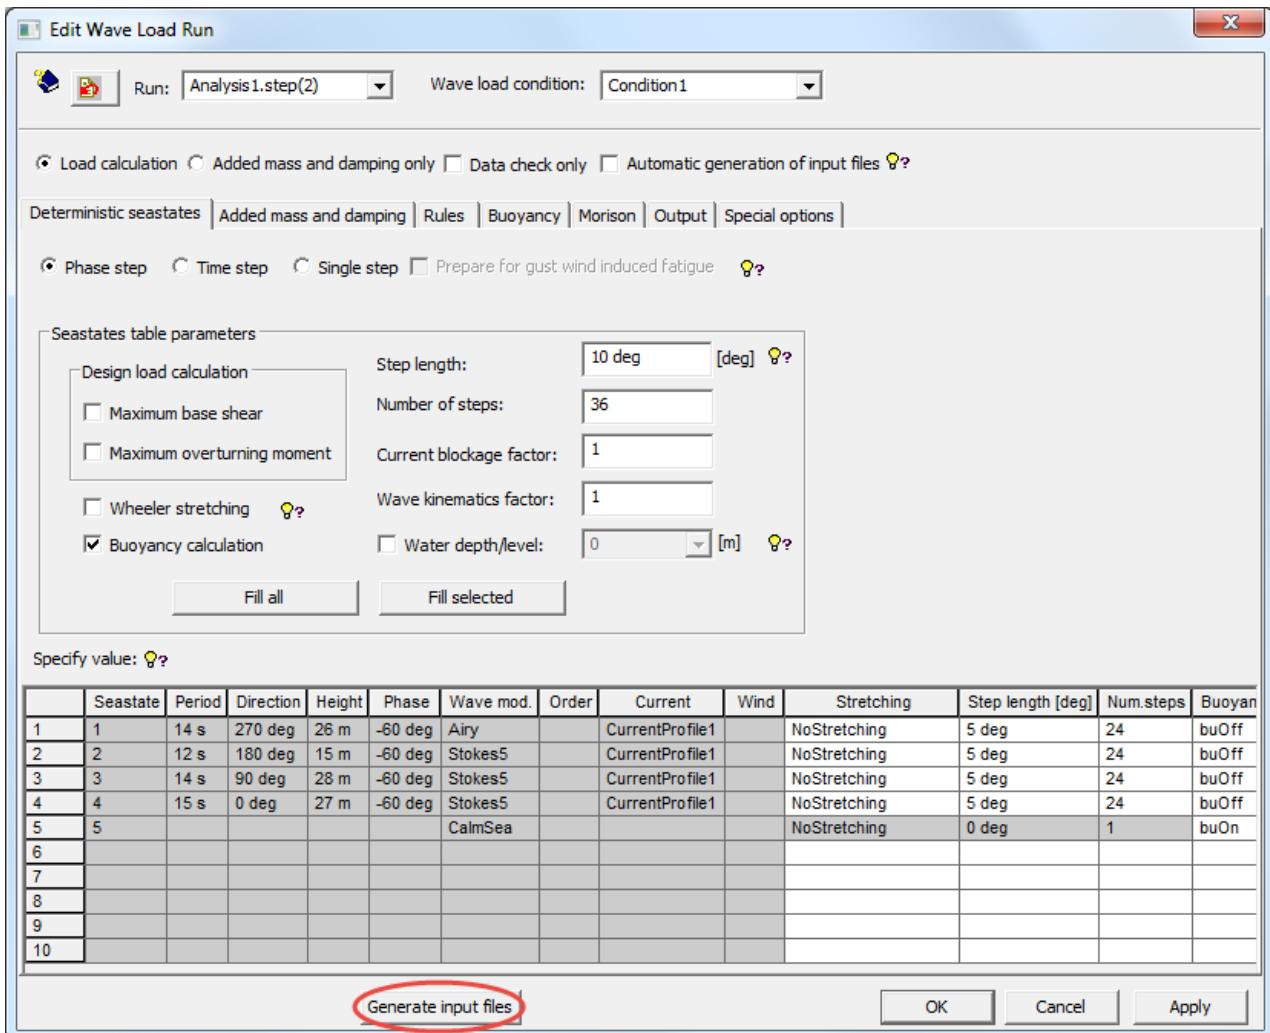

Figure 5.42 The common part of the Edit Wave Load Run dialog, plus all tabs
- The Wajac.inp file is created by default. The Automatic generation of input files option should be unchecked if the user wants to have the final control over the Wajac.inp file. In this case a Generate input files button appears in the dialog; see Figure 5.42. Clicking this button will create an input file that may be manually edited. In other cases an old Wajac.inp file exists that the user may want to use.